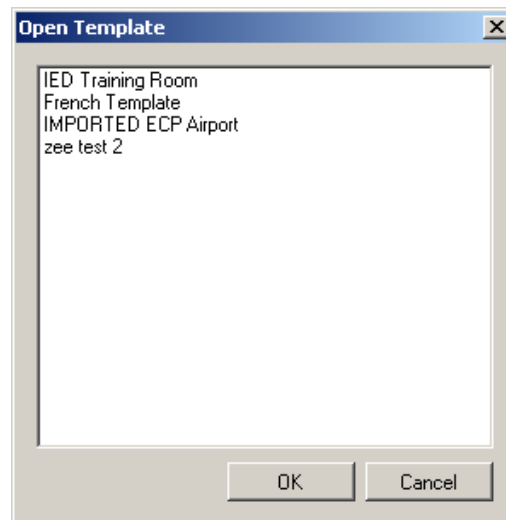

Figure 6-4: Open Template
2. Click the **Open Template** button on the toolbar. This will display the Open Template dialog box as shown in Figure 6-4.
2. Click the **Open Template** button on the toolbar. This will display the Open Template window as shown in Figure 6-4.
Click this button to open the **Open Template** dialog box as shown in Figure 6-4.